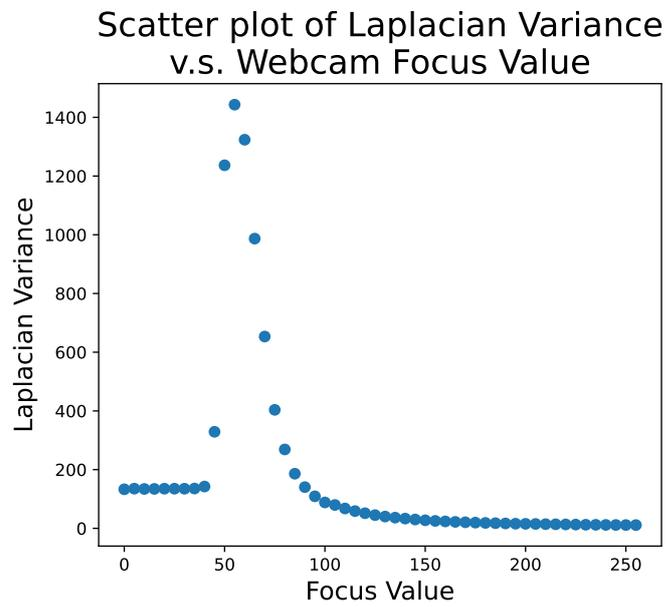

Figure S6: Laplacian Variance vs. Focus Value for Webcam. The optimal focus value is 55.
- Fig. S6 shows Laplacian variance v.s. focus value plot.